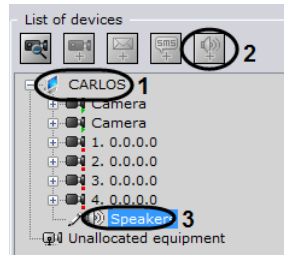

Fig. 6.3—21 Creating a Speaker object
1. In the list of devices, highlight a **Server** object (Fig. 6.3—21, 1)
2. Click the  button (see Fig. 6.3—21, 2).